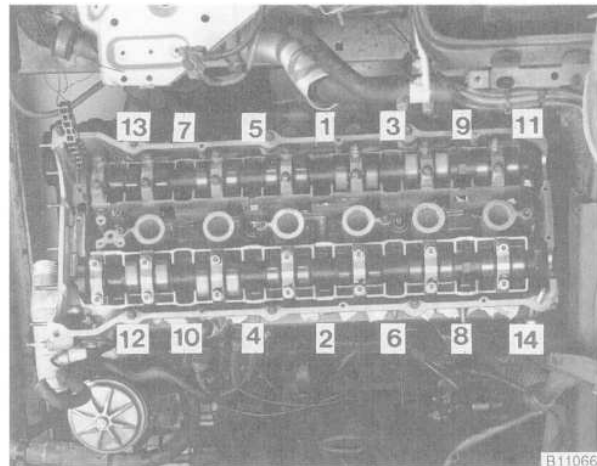

Fig. 27. Cylinder head bolt tightening sequence for M50 engine.
6. Tighten the cylinder head bolts in the sequence shown in Fig. 27.